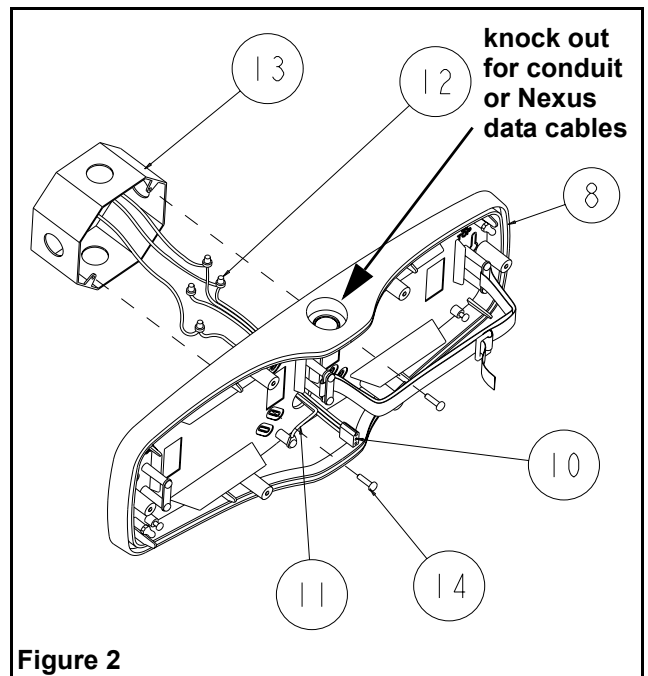

Figure 2
Wall mounting on a junction (figure 2)
- c. Remove AC harness from electronic module. Wire to AC circuit wires using wire nuts (see figure 2). Refer to hookup instructions on page 2..
- d. Install the gasket on the back plate. Feed AC harness and the ground through the large hole in the backplate (see figure 2). Mount to J-box using the J-box screws (not provided). J-box should be properly secured directly to a stud.